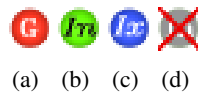

Figure 2.4-9: Integration Mode icons
- an optional icon indicating the current integration mode of the position and velocity information shown by RxControl, see Figure 2.4-9 on the next page: